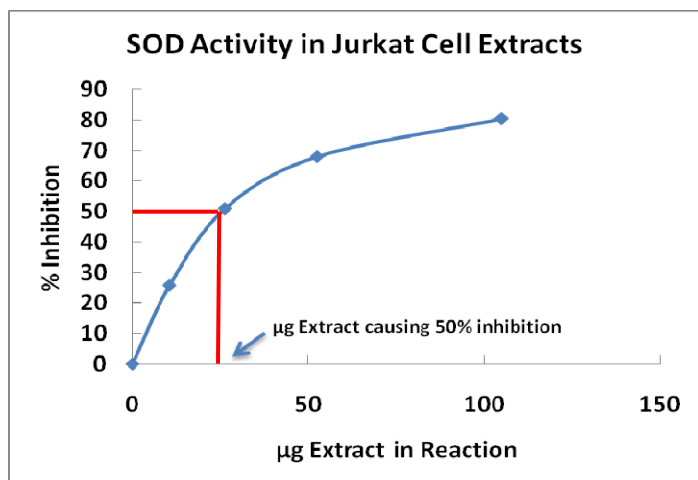

Figure 4. Inhibition curve for Jurkat cell extracts.
- In a similar manner, plot % inhibition of your cell extract versus μg cell extract in the reaction. From the curve, determine the amount of protein in the cell extract which causes a 50% inhibition of the rate of increase in absorbance at 450 nm. This is shown in Figure 4 for SOD activity in Jurkat cell extracts:
I. Cell Extract (Figure 4):